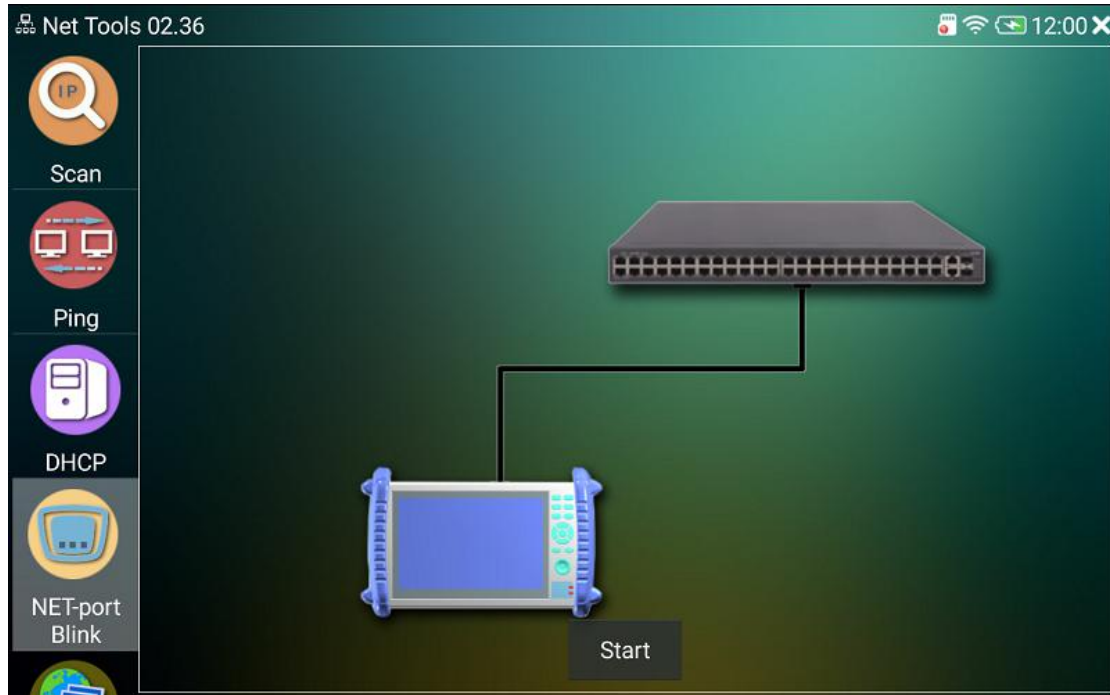

Figure 34
3) NET-port Blink function: Connect one end of the cable to LAN port, touch 'Start' button then you can see the port on network device blink regularly, it's easy to find the other end of a cable by this function, port blink period is 2 seconds, as shown in Figure 34